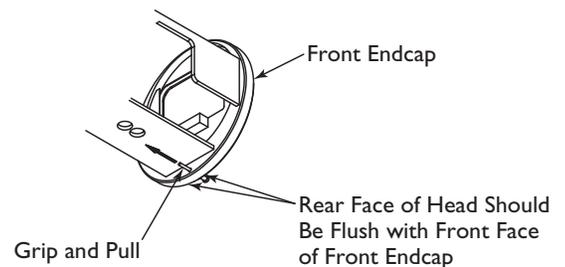

Figure 14 Installing the Pull Seal
4. Grip the pull seal's *long end* from the back of the front endcap. Steadily pull the *long end* until the head of the pull seal is flat against the front of the endcap (see **Figure 14**).